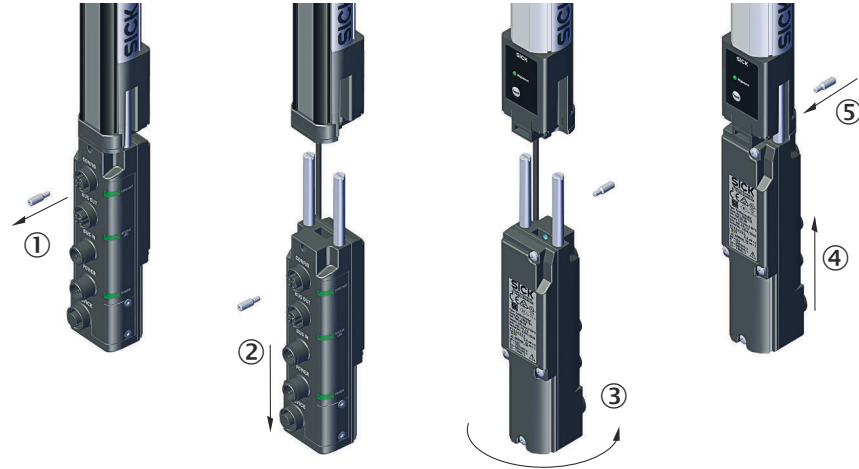

Figure 38: Turn the fieldbus module by 180°
- ▶ Remove the fieldbus module as described (see figure 38, page 46).